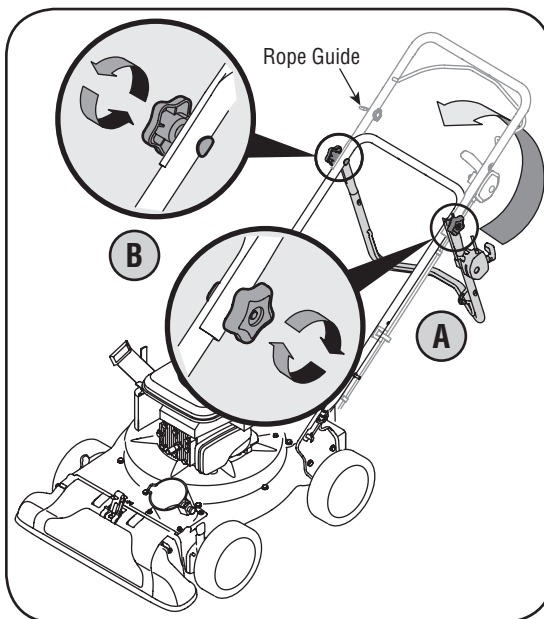

Figure 3-3
2. a. Unfold the upper handle until it aligns with lower handle. Make sure the rope guide is on the right side of upper handle. See Figure 3-3.
- b. Secure the two handles by tightening the star knobs (carriage bolts must be seated properly into the handle). See Figure 3-3.